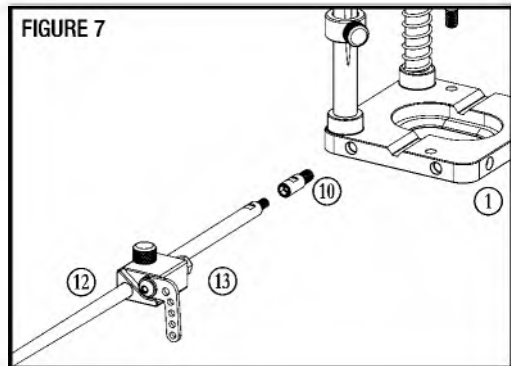

FIGURE 7
1. Remove one of the Lock Knobs (5) from the Chuck Carrier (2).
2. Use the Allen Wrench Tip (that is machined into the bottom of the Lock Knob) to remove Centering Pin (10) from the top side of the Base (1).
4. Thread an Extension Rod (12) into the Centering Pin. **FIGURE 7.**
5. Slide the Flip Stop (13) onto the Extension Rod.